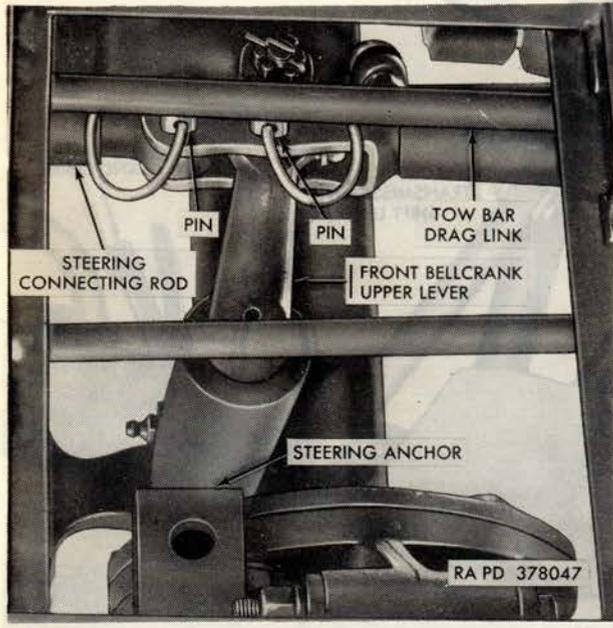
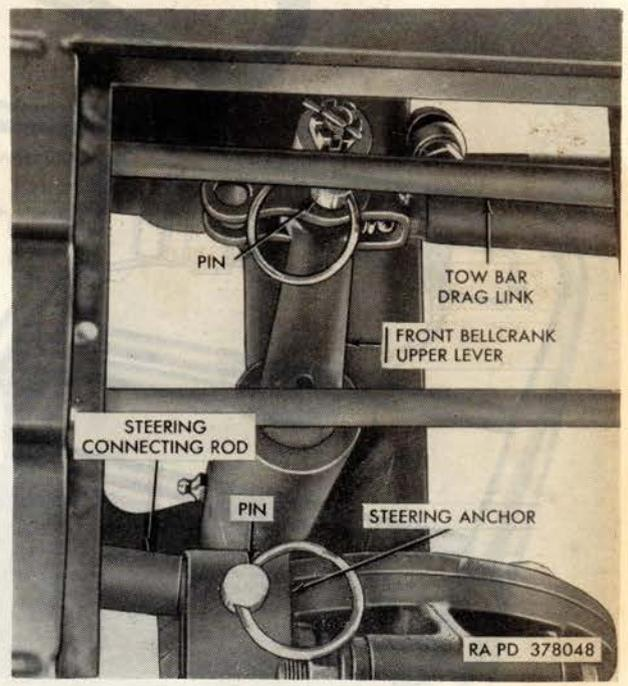

Figure 14. Two- and four-wheel steering connections steering access opening lid removed and four-wheel steering connected.
Figure 15. Two- and four-wheel steering connections steering access lid removed and two-wheel steering connected.
seat) 180° and remove lid from platform. When using four-wheel steer, the forward end of the steering connecting rod (fig. 14) is connected to rear end of tow bar drag link. When using two-wheel steer, the forward end of the steering connecting rod is connected to an anchor (fig. 15) on right frame tube.
b. To change from two- to four-wheel steering, pull out pin securing front end of steering connecting rod to anchor (fig. 15), swing the end to the left to align with hole through rear end of tow bar link (fig. 14), and insert pin. The pin is held in place by a spring-loaded ball.
c. To change from four- to two-wheel steering, pull out pin securing the front end of steering connecting rod to tow bar drag link (fig. 14), swing the end of the lever to right to align with hole in anchor (fig. 15) and insert pin.